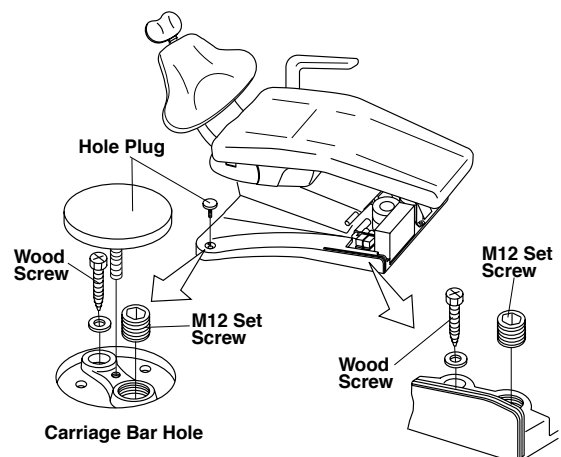

Fig.6-22 Fixing Base on Floor
(2) Fixing the Base to the Floor
A. After checking the chair position, fix the base on the floor with 4 x wood screws. (Fig.6-22)
B. Fit 4 x M12 set screws (Level adjuster screws) in to the base plate. The chair level can be adjusted with the leveling screws. (Fig.6-22)
C. Fix the hole plugs in the carriage bar holes on the base. (Fig.6-22).